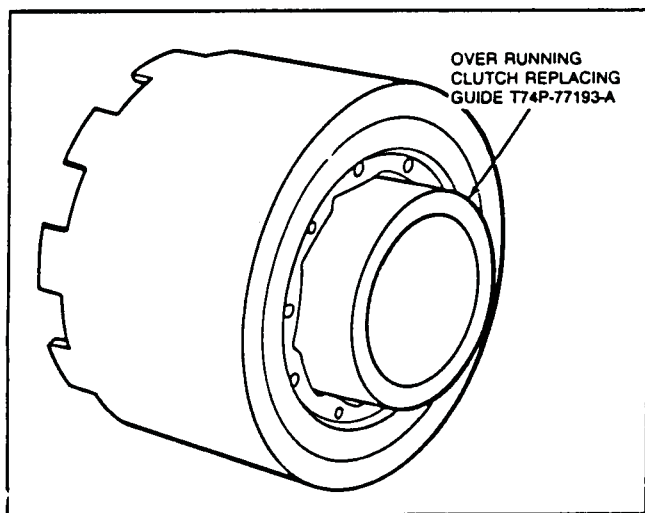

FIG. 43 Clutch Replacing Guide
5. Position thrust washer No. 10 in the case and install the reverse brake drum using the Overrunning Clutch Replacement Guide Tool T74P-77193-A or equivalent (Fig. 43). Then remove the guide and install the internal gear. Secure with a snap ring.